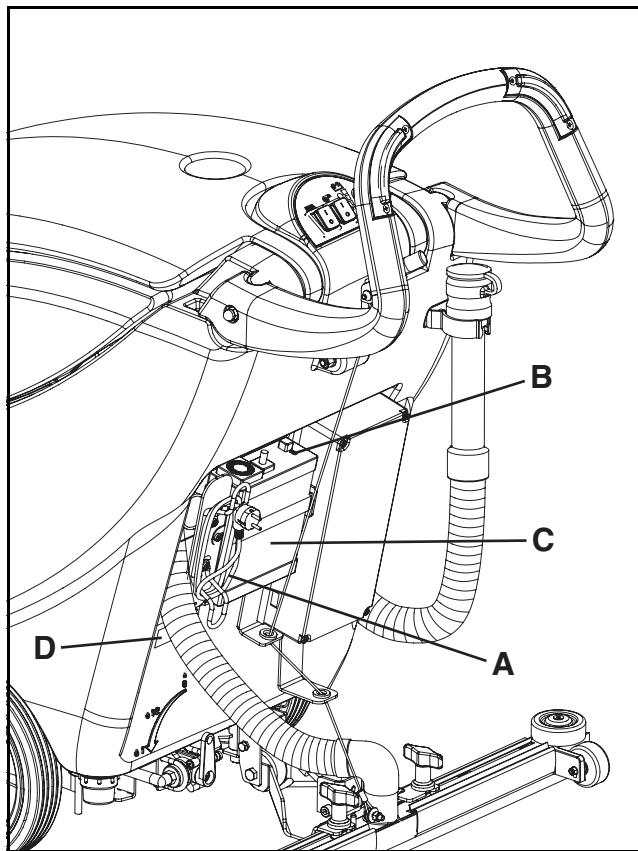

Figure 31
3. Make sure the battery charger cable is plugged into an electrical outlet that will provide voltage and frequency according to the serial number plate/technical data (D, Fig. 31).
The green indicator light (B, Fig. 31) flashes when the battery charger is charging the batteries.
4. When the green indicator light (B, Fig. 31) stays on, the battery charging cycle is over.
5. When the battery charging cycle is over, disconnect the battery charger cable (A, Fig. 31) from the electrical outlet and wind it around its housing on the machine.
For further information about the operation of the battery charger (C, Fig. 31), see the relevant Manual.